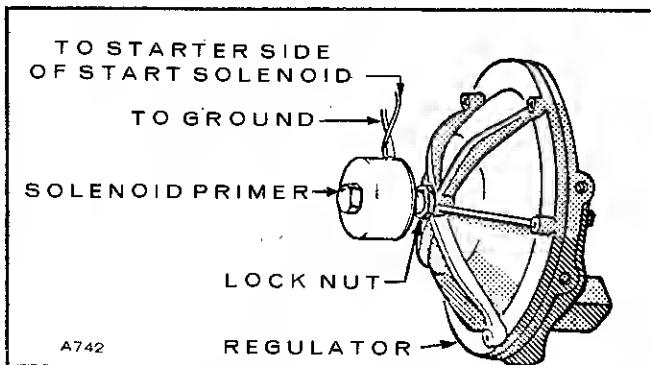

FIGURE 23. SOLENOID PRIMER
**Solenoid Primer (Algas regulator only):** Algas regulators use an optional solenoid primer to provide quick engine starting. The primer (Fig. 23) holds the regulator open during plant cranking. It can be adjusted for a rich or lean mixture by loosening the lock nut and turning the primer in or out. Clockwise richness the mixture.